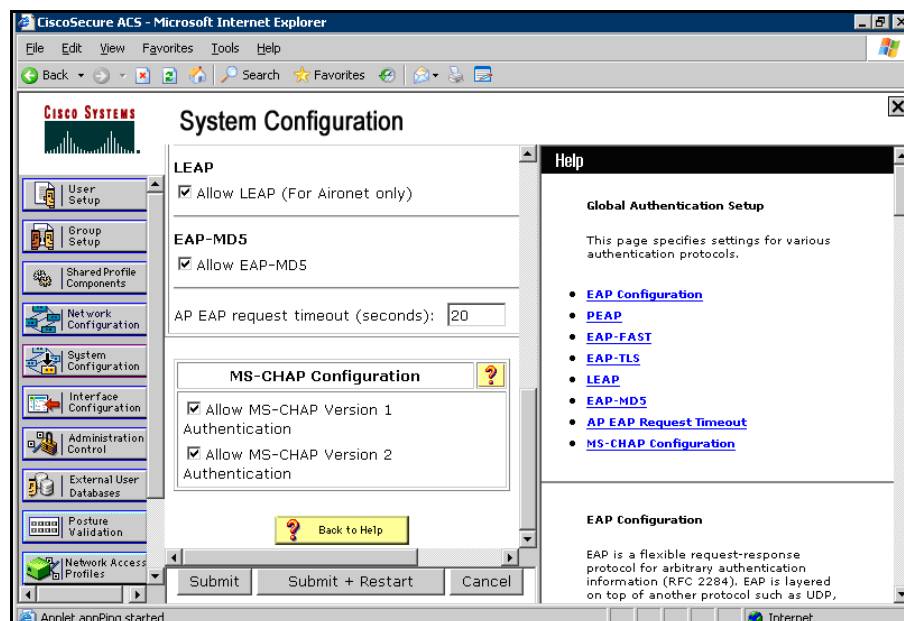

FIG. 73 EAP-LEAP sample Cisco System Security page
- Refer to FIG. 73 for an example of what a typical EAP-LEAP system configuration page would like.